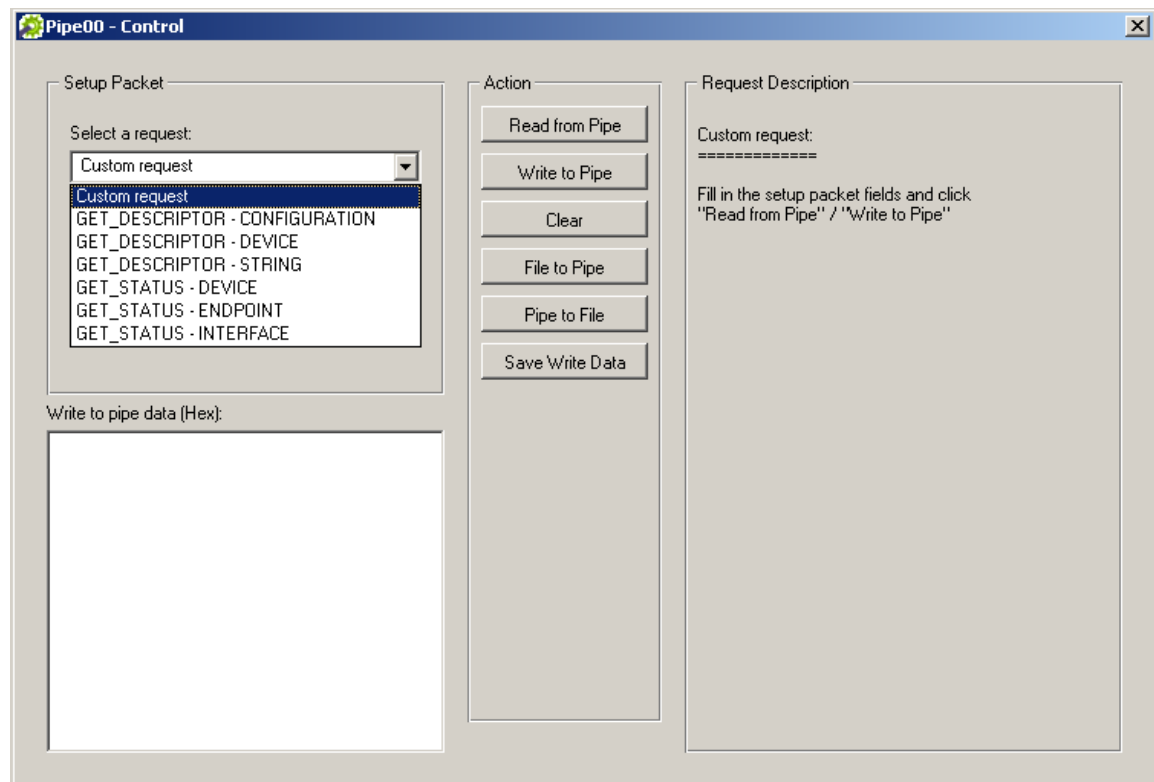

Figure 5.7: USB Requests List
- ii. For a control pipe (a bidirectional pipe), click **Read/Write to Pipe**. A new dialogue will appear, allowing you to select a standard USB request or define a custom request, as demonstrated in Figure 5.7.